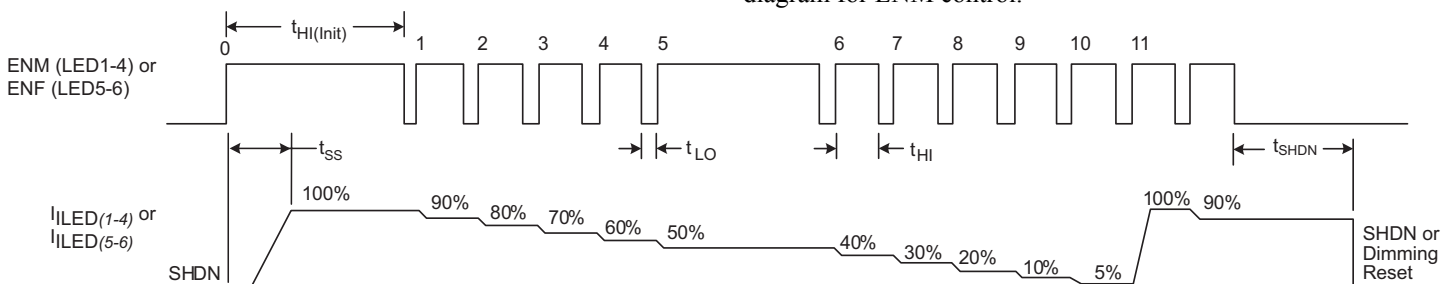
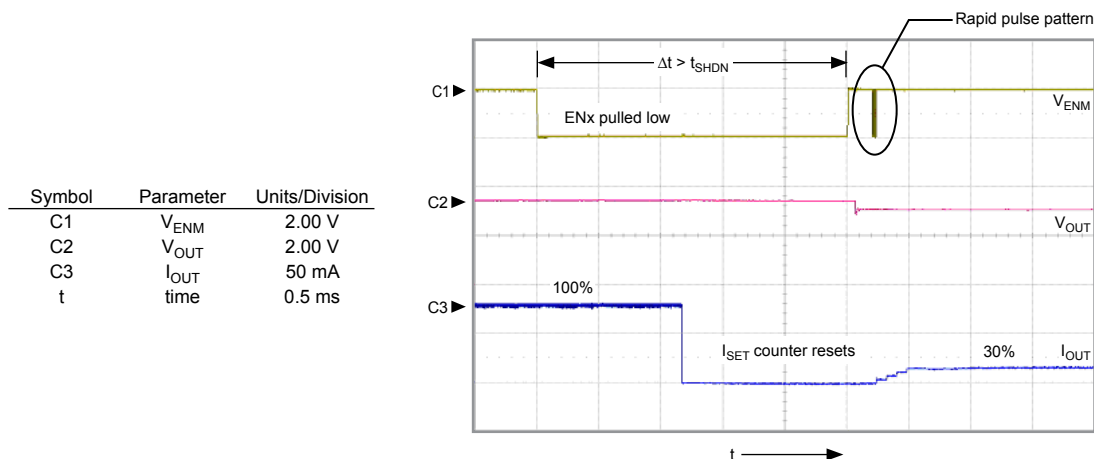

Figure 6. Single-Wire Serial Dimming Control; at pins ENF and ENM.
Figure 7. Absolute Dimming Level Setting. With ENM pulled low longer the  $t_{SHDN}$ , pulsing the corresponding ENx pin sets an absolute target level.
When ENM is initially pulled up from shutdown, after a soft-start, the current for the backlight LEDs is programmed to 100% of the setting current, which is determined by the current through the ISET pin. Each subsequent pulse reduces the LED current by 10%, and the 10th pulse reduces the current by 5%. The next pulse restores 100% (full) brightness. Figure 6 shows the timing diagram for ENM control.
When the ENF pin is initially pulled up from shutdown, after a soft-start (if the IC is not yet soft-started using the ENM pin), the current for LED5 and LED6 is, by default, programmed to 100 mA, corresponding to 100% of flash/torch brightness. Each subsequent pulse reduces the LED current by 10 mA, and the 10th pulse reduces the current by 5 mA. The next pulse then restores to 100 mA (full) output current per channel. Figure 6 shows the timing diagram for ENF.
**Absolute Level Operation** Some applications require dimming to a specific level, regardless of the present level of dimming. For example, if the IC should dim to 30%, this can be done with 7 steps, as shown in figure 6, irrespective of the dimming level in effect. This can be achieved by pulling corresponding ENx
pin low for time greater than  $t_{SHDN}$  and then applying pulses as shown in figure 6 (7 for 30% dimming). If the pulses are applied within 2 to 3 ms, the display flicker is not visible. The procedure is shown in figure 7.